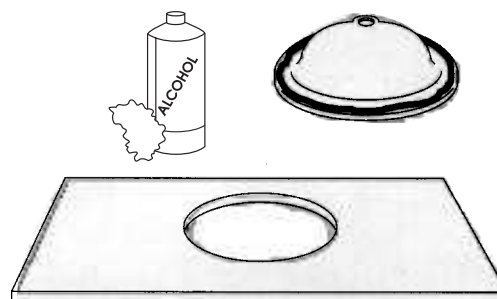

Figure 4
- Rest the bowl upside down on a clean, smooth surface. Clean the underside flange area with denatured alcohol and a clean, white cloth (see Figure 4).
- Apply a generous, continuous bead of color-matched Silicone Sealant to the underside flange area, making sure the adhesive extends to the outer edge (see Figure 4).